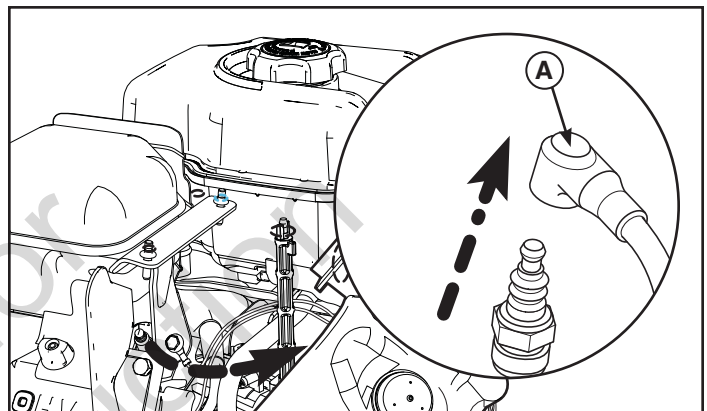

Figure 11
1. With engine off but still warm, disconnect the spark plug wire (A, Figure 11) and keep it away from the spark plug.